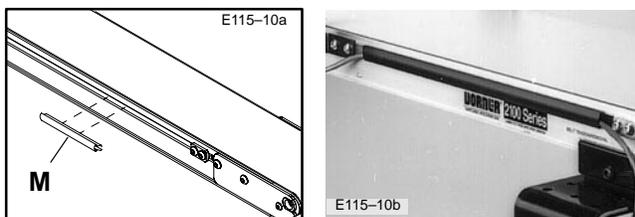

Figure 10: T-slot Cover Strip Mounting Details
- To contain a long run of wiring cable in the conveyor T-slot channel, use several short lengths of T-slot Cover Strips (M) (Figure 10). Or, to completely contain a long run of cable, purchase T-slot Cover Strip (645656P) at length required.